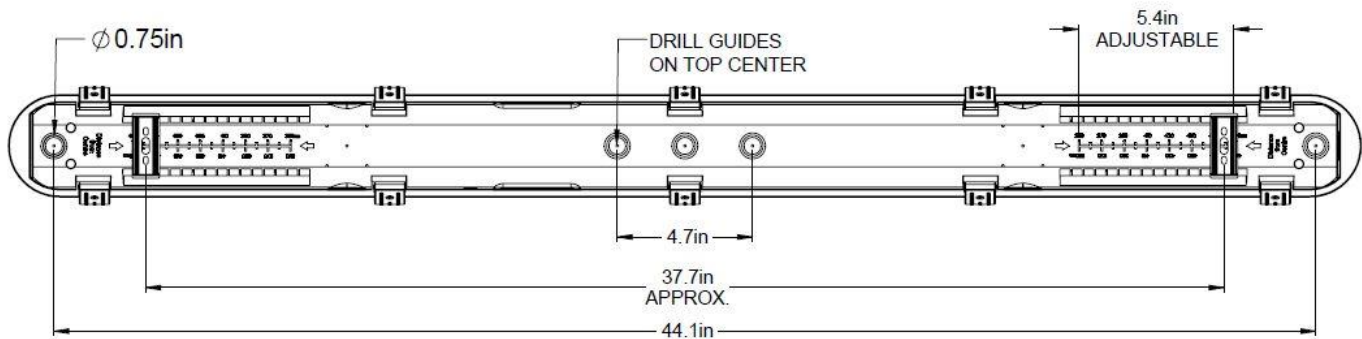

Figure 3
- Select location for mounting the fixture. Two mounting brackets (3) are supplied with drywall anchors (4) & screws (5). Approximate locations shown in Figure 3. 5.4" of adjustment in either direction provided in the housing for mounting bracket (3) locations.
- To locate, hold fixture assembly up to ceiling with power supply hole located over entryway for power supply wires. Mark the locations of the mounting holes for brackets (3) on the ceiling.
- If there is a joist, use a suitable wood screw (not provided) to install the mounting brackets (3). Where there is no joist to screw into, use drywall anchors (4) & (5) or toggle bolts (not provided) of suitable length to install the mounting brackets (3) securely to the ceiling.
- Secure the housing (1) to the mounting brackets (3) by pushing the housing upward onto the brackets until it fully engages and locks in place. Ensure the supply conductors are routed through the housing opening.